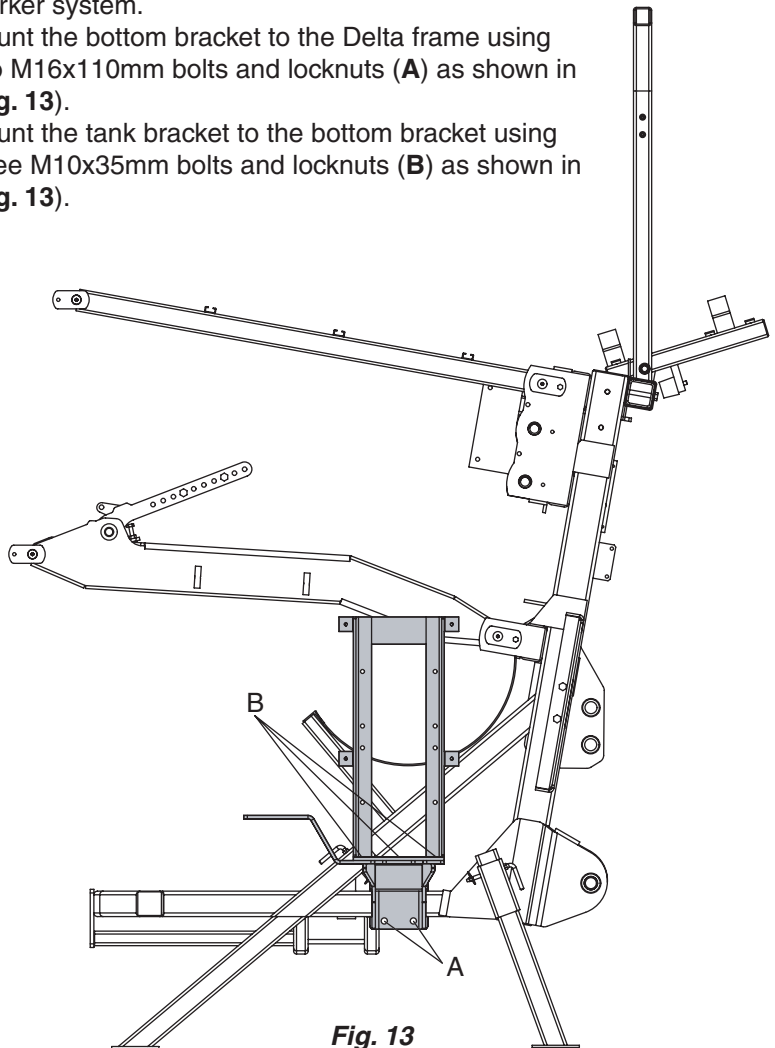

Fig. 13
2. Mount the bottom bracket to the Delta frame using two M16x110mm bolts and locknuts (**A**) as shown in (Fig. 13).
3. Mount the tank bracket to the bottom bracket using three M10x35mm bolts and locknuts (**B**) as shown in (Fig. 13).